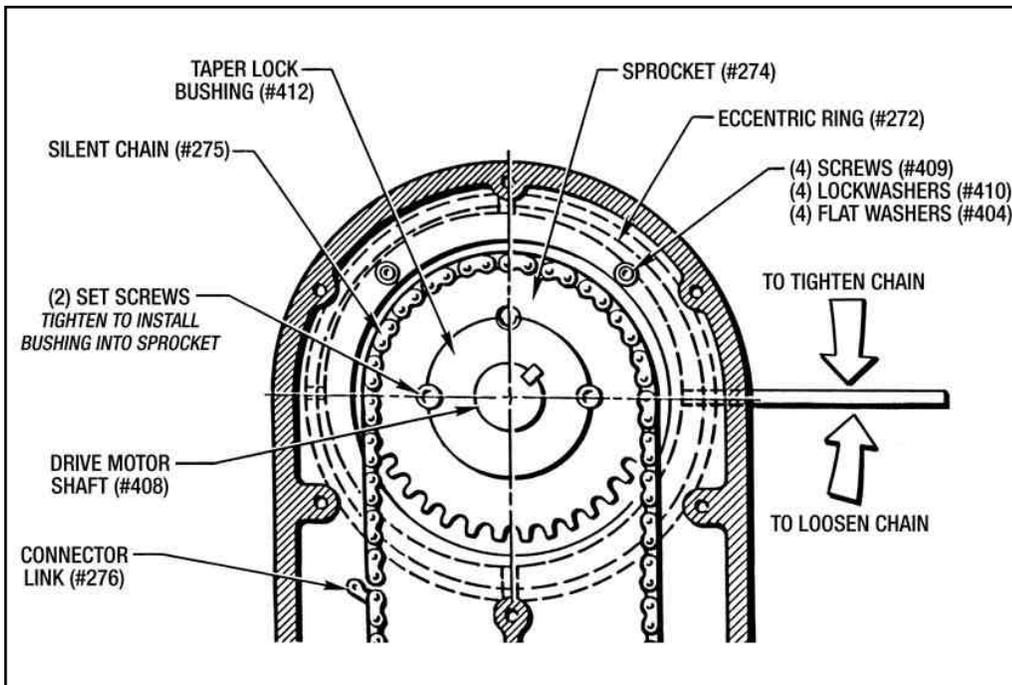

Figure 9.07 - Chain Drive Assembly
5. Manually raise the Chain (#275). With the aid of an overhead crane, slide the Drive Motor (#408) into the rear of the housing, mating the male pilot diameter on the motor face with the female diameter in the Eccentric Ring (#272). Attach with (4) Hex Hd. Screws (#409), (4) Lockwashers (#410) and (4) Flat Washers (#404). **DO NOT TIGHTEN SCREWS AT THIS TIME.** (See Figure 9.07.)